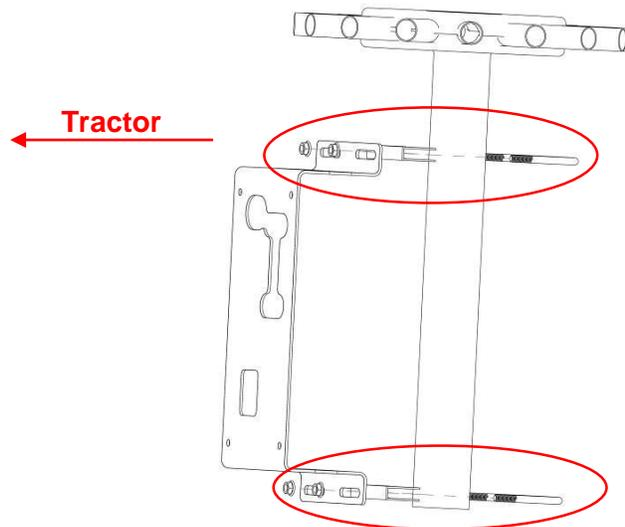

Figure 3: Mounting an ECU bracket to the implement tower
3. Place an ECU mounting bracket (351050-000012) so that the ends of the u-bolt are going through the top two holes of the ECU mounting bracket, as seen in the top circle in Figure 3.
5. Place another u-bolt around the manifold post and through the bottom holes of the ECU mounting bracket, as seen in the bottom circle in Figure 3.